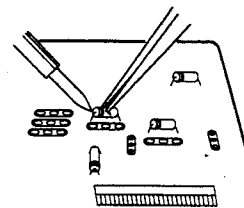

Fig. 9
- Hold a Chip part to be removed with tweezers and apply heat to the solder at one end of the part with a soldering iron. (Fig. 9)